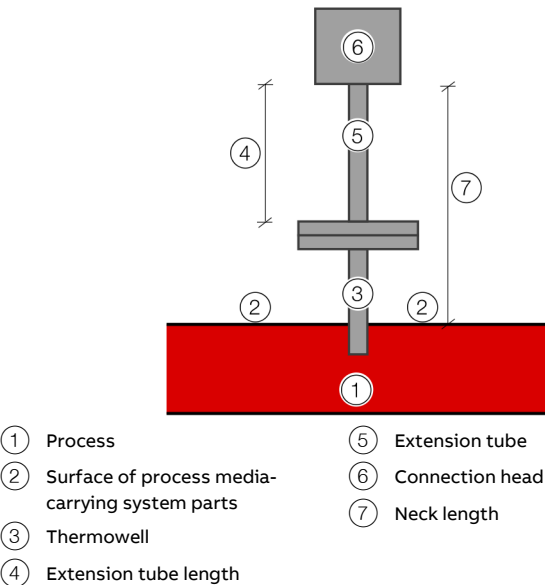

Figure 1: Definition of the neck length
Therefore, at transmitter output power  $P_o = 38 \text{ mW}$  the temperature rise in the event of a fault is approximately 8 K. This results in maximum feasible process temperatures  $T_{medium}$ , as presented in Table **Figure 1** on page 8 .
- (A) Temperature rise in connection head °C (°F)
- (B) Neck length mm (in)
- Surface temperature of process media-carrying system parts °C (°F), see Figure 1 on page 8
- ① 250 (482)
- ② 450 (842)
- ③ 620 (1148)
- ④ 800 (1472)